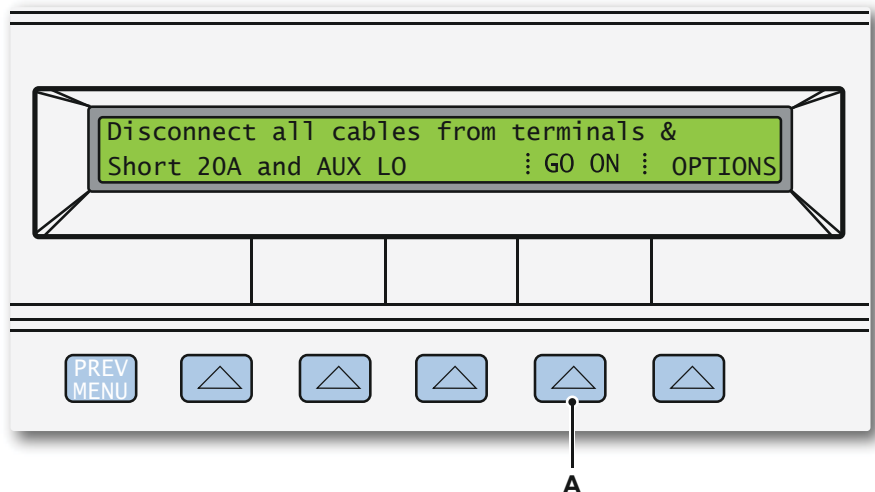

Figure E.17: Fluke 5522A status message (20 A to be applied)
- 7 Select the **GO ON** button to continue with the Zero calibration process (see Figure E.17).